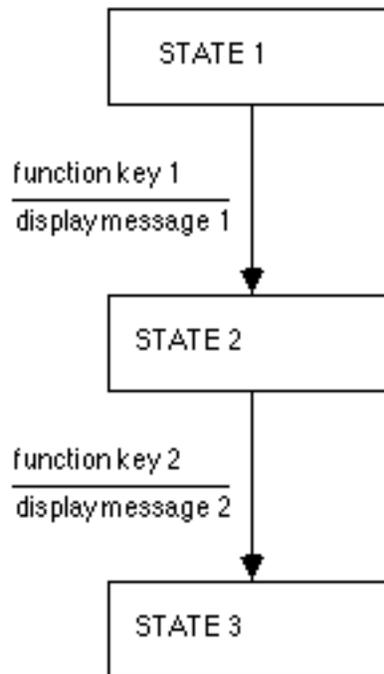

Figure 13.7: An incomplete STD
- * *In each state, does the system respond properly to all possible conditions?* This is the most common error when building a state-transition diagram: the systems analyst identifies the state changes when normal conditions occur, but fails to specify the behavior of the system for unexpected conditions. Suppose the analyst has modeled the behavior of a system as shown in Figure 13.7; she expects that the user will press a function key on his terminal to cause a change from state 1 to state 2 and a *different* function key to change from state 2 to state 3. But what if the user presses the same function key twice in a row? Or some other key? If the system behavior is not specified, there is a good chance that the designers and programmers will not program for it either, and the system will exhibit unpredictable behavior under a variety of circumstances.